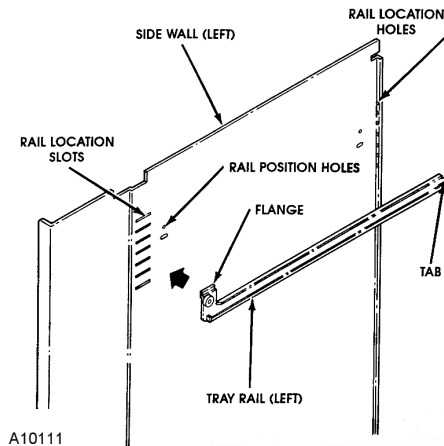

Figure 9. Removing a Tray Rail
7. Disengage both left and right tray rails from their slots on the sidewalls. Pull inward on the bottom of each rail and pull its flange out of the slot. Pull each rail forward to disengage its rear tab from the hole in the rear wall. See Figure 9.